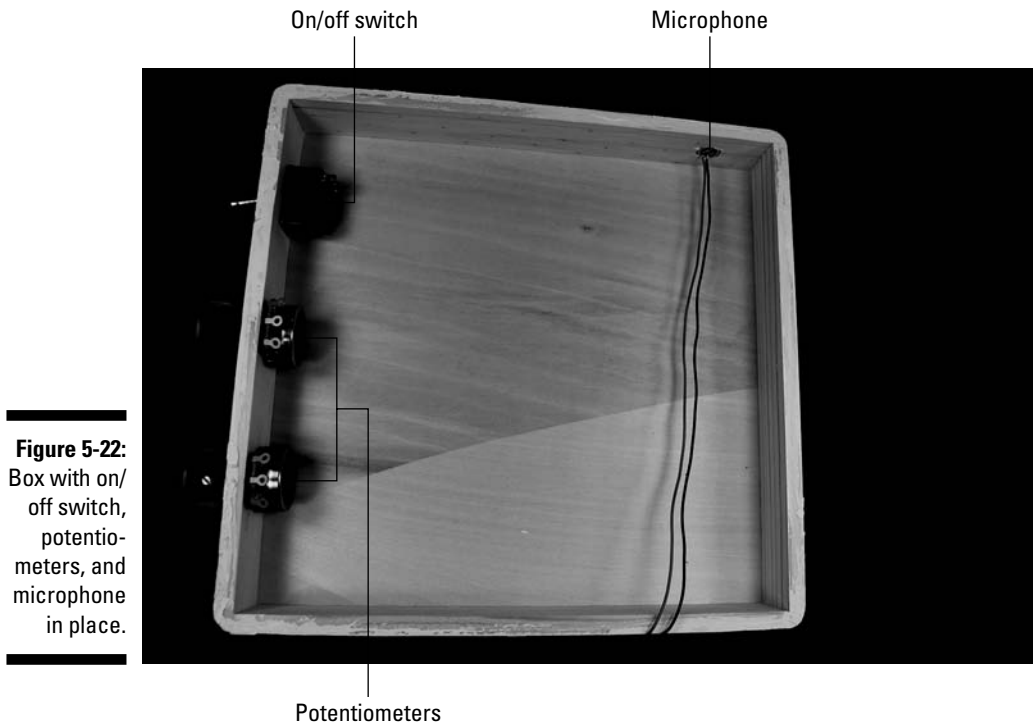

Figure 5-22: Box with on/off switch, potentiometers, and microphone in place.
We put both the potentiometers and on/off switch on one side of the box and the microphone on another side, but the placement is really up to you. Chose a drill bit size for the microphone hole so that the microphone has a slip fit. The upcoming Figure 5-22 shows where we place these components.
- Figure 5-22 shows the on/off switch, potentiometers, and microphone in place in the box.